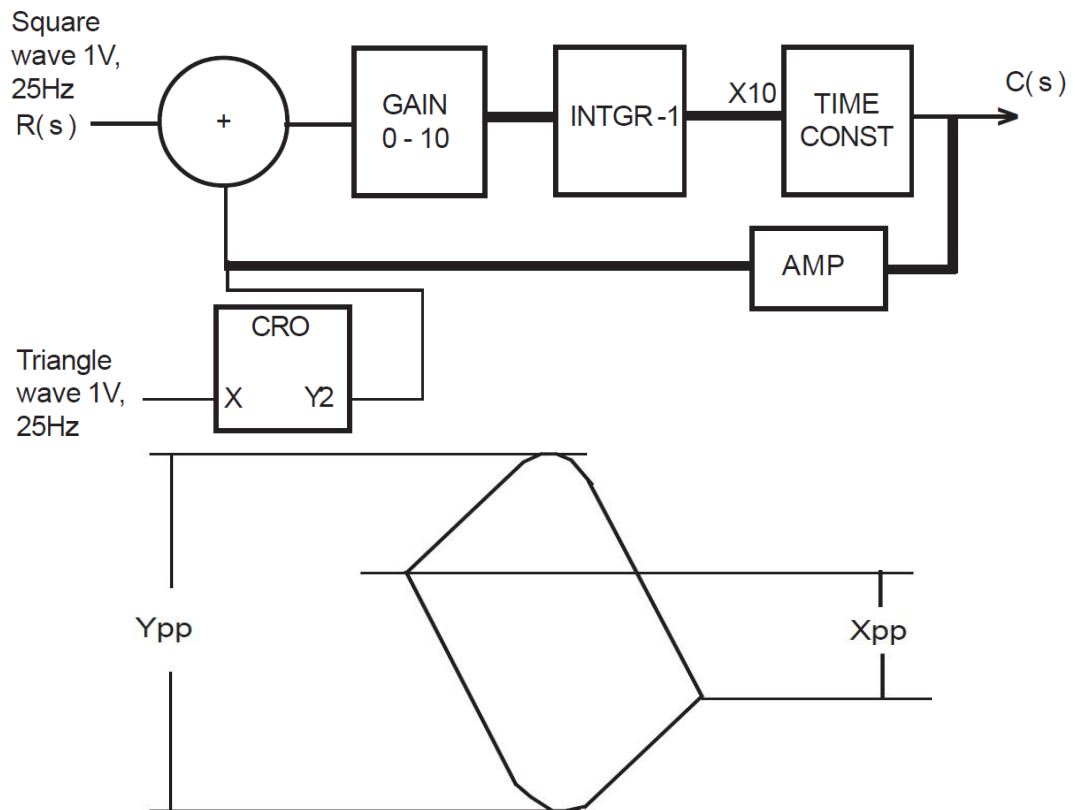

Fig 6. Above second order close loop system. XY connection.
4. Find the ess from the loop as shown in Fig. 6